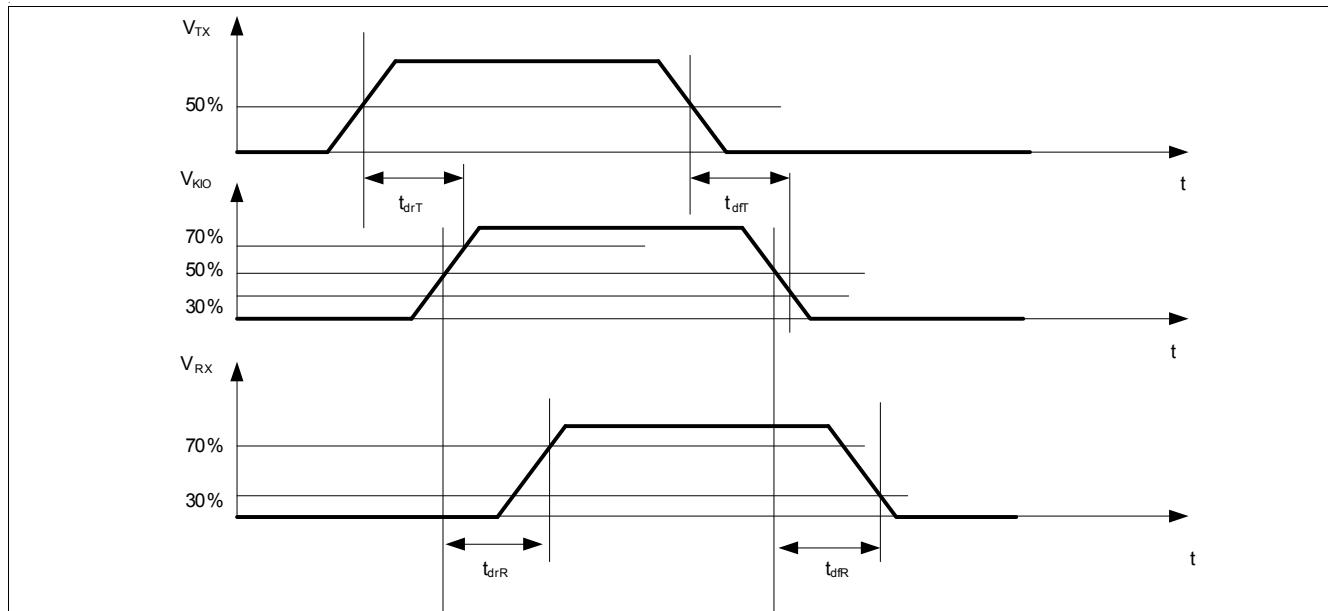

Figure 12 Transfer characteristics
2) For definition see Figure 12